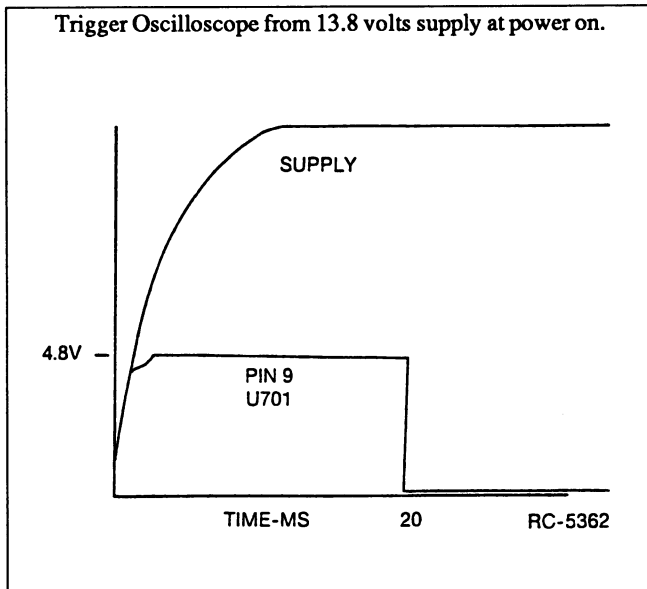

Figure 2 - Reset Waveform
2. Check Power-On Reset on U701, Pin 9 (see Figure 2). if not present, check regulator U705, Pin 2 and transistor Q704.